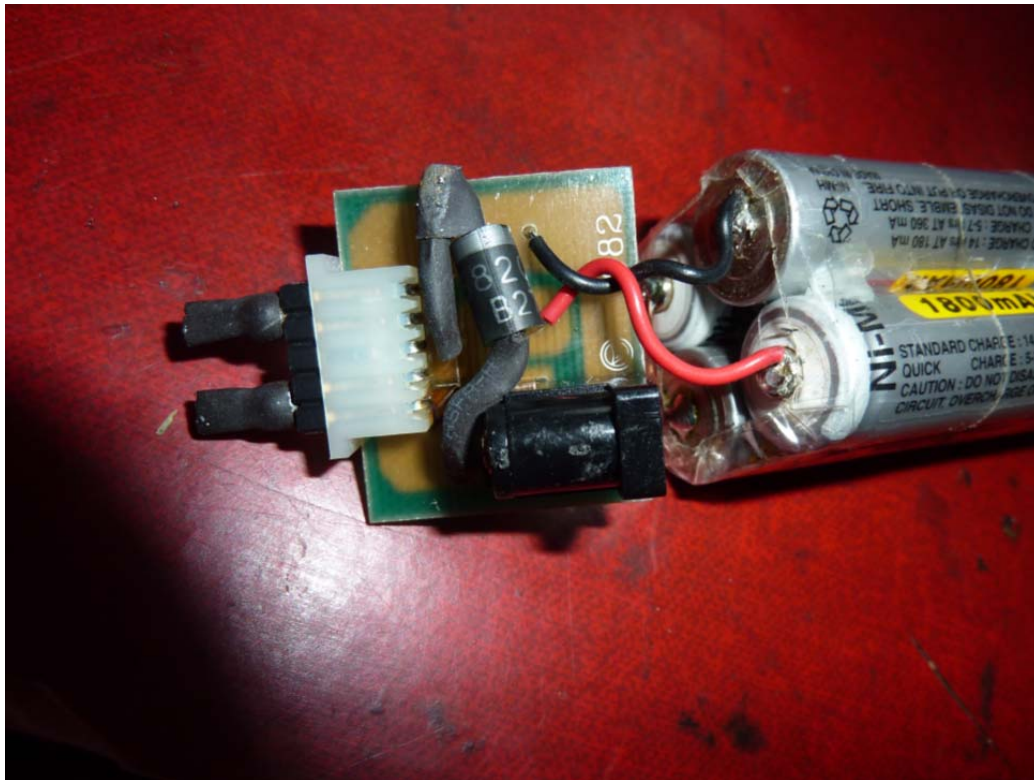

Figure 51 New 3A diode soldered to PCB (Note: Silver line on diode indicating orientation)
6. Solder in the new diode, protecting its exposed 'legs' with heat shrink or tape (see Figure 51).